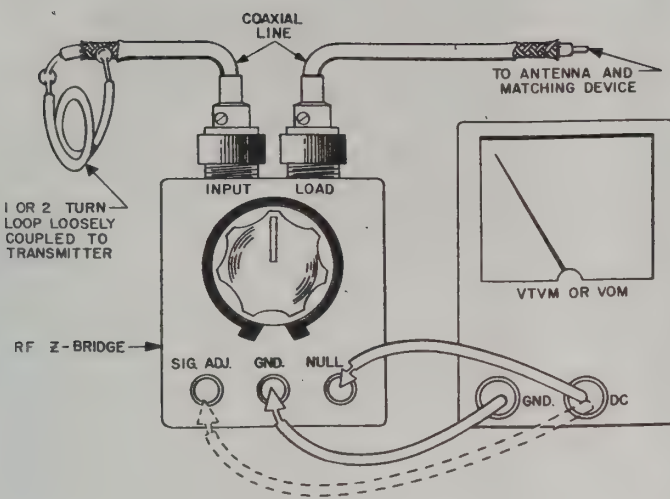

FIGURE 7. TYPICAL SET-UP USING COAXIAL CABLE
5. Loosely couple the INPUT of the Z-Bridge to the transmitter. Only a very low power level is required to operate the Z-Bridge. **A one or two-turn loop, on the end of a coaxial feed line placed near the transmitter's tank coil, will give sufficient pick-up to operate the Z-Bridge.** See Figure 7. The feed line can be connected directly to a pi-type output circuit. Set the coupling to minimum.
SEE FIGURE 7.